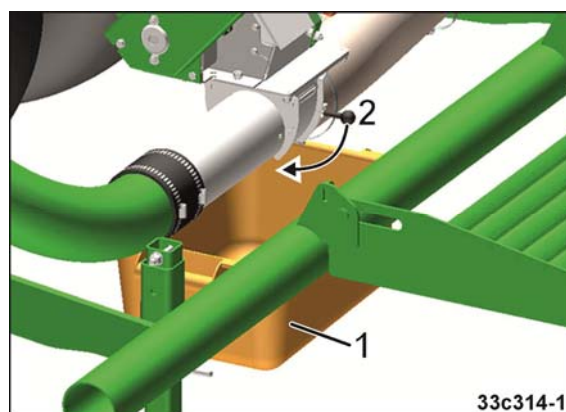

Fig. 58
3. Place the collection bucket (Fig. 58/1) under the metering unit.
4. Open the injector sluice flap (Fig. 58/2).